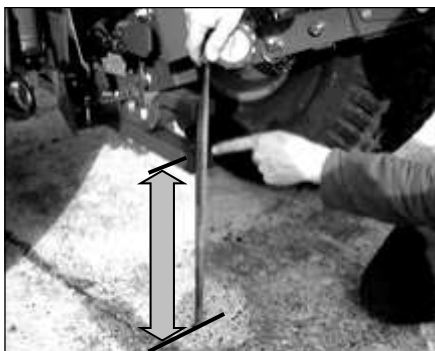

Fig. 6
3. Measure the height of the tractor drawbar from the ground to the top of the bottom tongue (Fig. 6). **Regardless of PTO shielding clearance** this measurement should be between **220 and 495mm (8.5-19.5")**. On tractors fitted with smaller-than-standard tyres this measurement may not be achievable. If so, fit standard diameter tyres or use another tractor with the correct drawbar height. If the driveshaft shielding fouls the drawbar, develop another way to shield the rotating driveshaft parts that will comply with local Health and Safety laws.